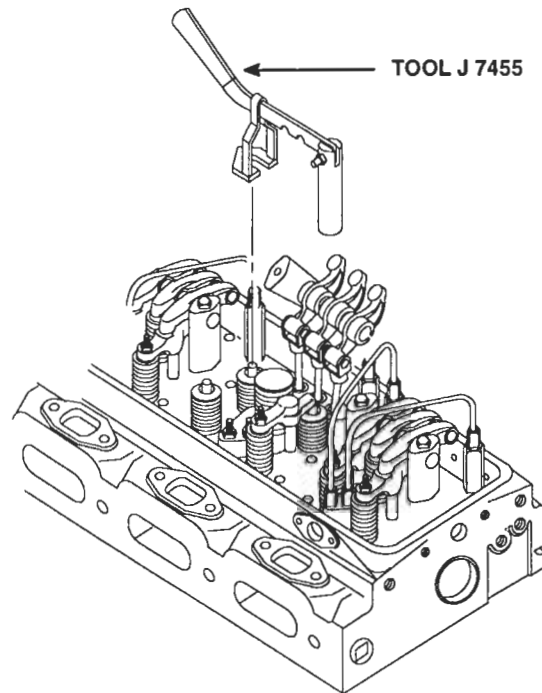

Figure 3. Removing Exhaust Valve Spring (Four-Valve Head Shown)
6. Thread the valve spring compressor adaptor J 7455-7 into one of the rocker arm bracket bolt holes in the cylinder head (Figure 3.) Then, compress the valve spring and remove the two-piece tapered valve lock.